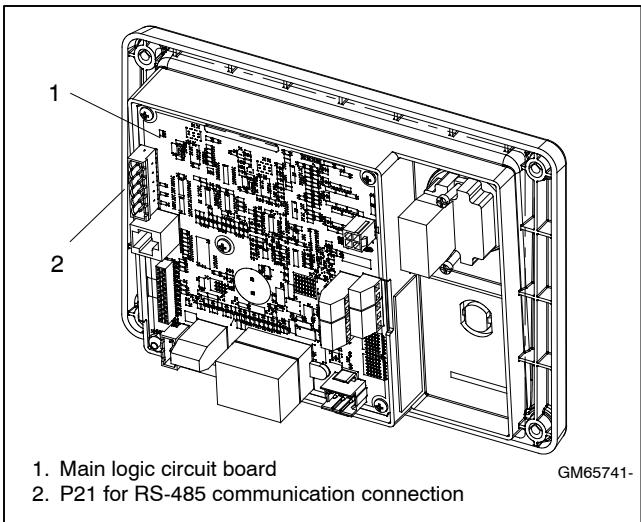
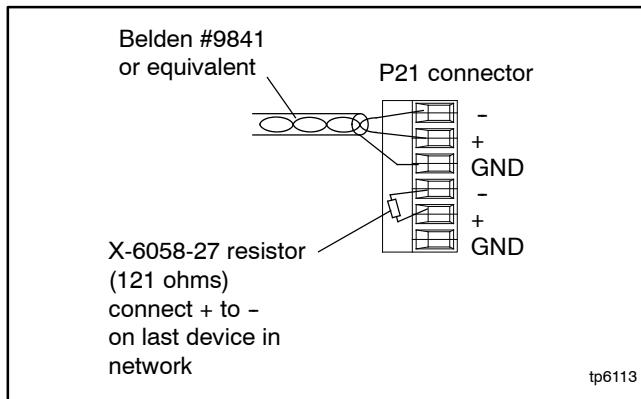

Figure 6-2 Communication Port P21
Figure 6-3 Connection Details
5. Connect to communication port P21 as shown in Figure 6-2 and Figure 6-3.